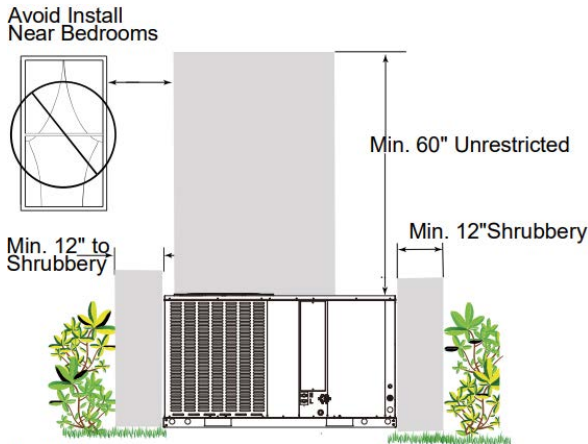
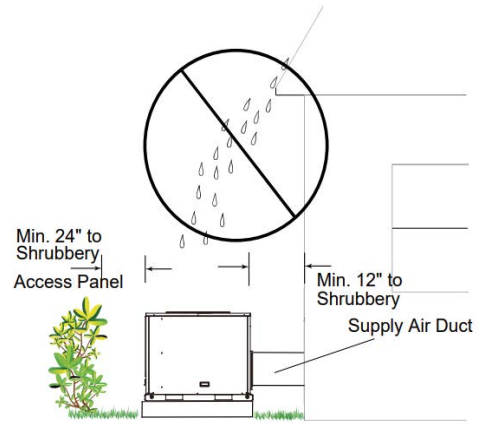

Fig. 2-8
Fig. 2-9
7. See Fig. 2-8 and Fig. 2-9
- Units should be elevated 3-12 inches above the pad or rooftop, depending on local weather. This additional height will allow drainage of snow and ice melted during defrost cycle prior to its refreezing. Ensure that the drain holes in the units base pan are not obstructed, preventing damage of defrosting water (Fig. 2-9).